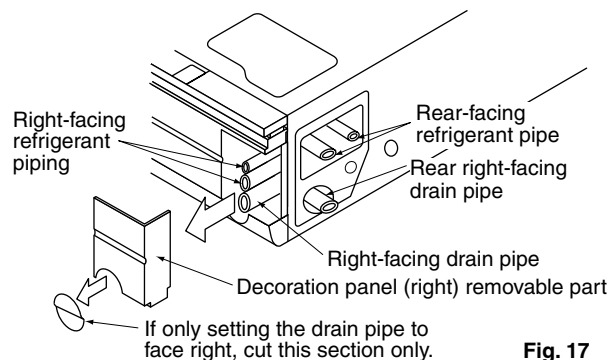

Fig. 17
- Remove the rear metal plate for pipe. (Refer to Fig. 17)
- Cut out a slit hole on the decoration panel (right) and set the pipe. (Refer to Fig. 17)